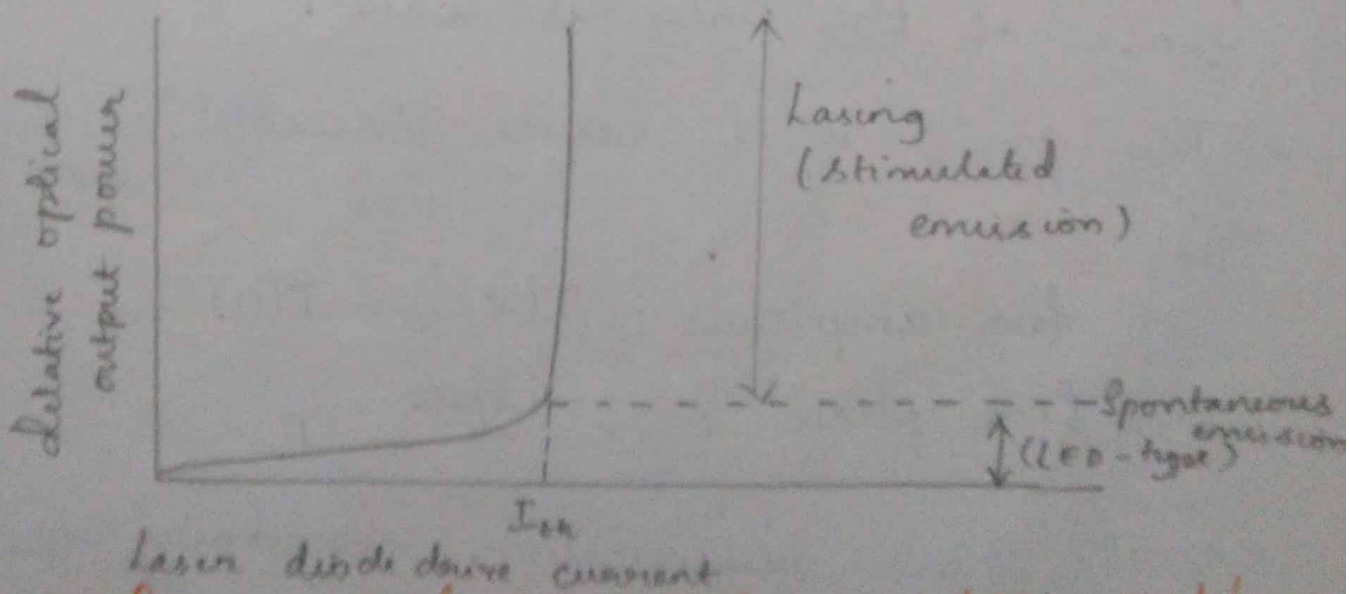

Fig 3:16 Relationship between optical output power and laser diode drive current
* From the above fig 3:16 it is clear that